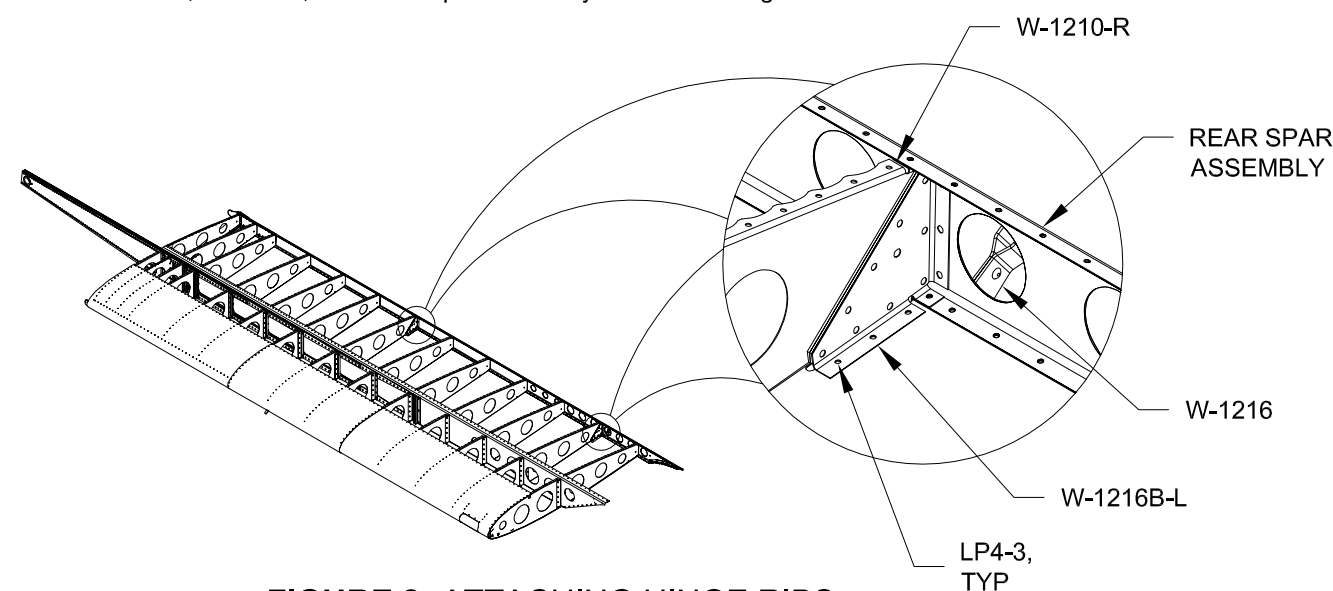

FIGURE 2: ATTACHING HINGE RIBS
Step 4: Cleco the bottom flange of the two W-1216B-L Hinge Ribs to the W-1202-L & W-1203-L-1 Mid & Outbd Wing Skins. Rivet the bottom flange of the hinge ribs to the mid & outbd wing skins. See Figure 2. Insert two W-1216 Hinge Bracket Assemblies through the openings in the W-1202-L & W-1203-L-1 Mid & Outbd Wing Skins. Flex the hinge ribs out of the way as required to allow insertion of the Hinge Bracket Assemblies. Insert clecos through the hinge ribs and Hinge Bracket Assemblies into the W-1210-R Main Ribs. Cleco the hinge ribs to the Rear Spar Assembly. Rivet the hinge ribs to the Hinge Bracket Assemblies, main ribs, and Rear Spar Assembly as shown in Figure 2.